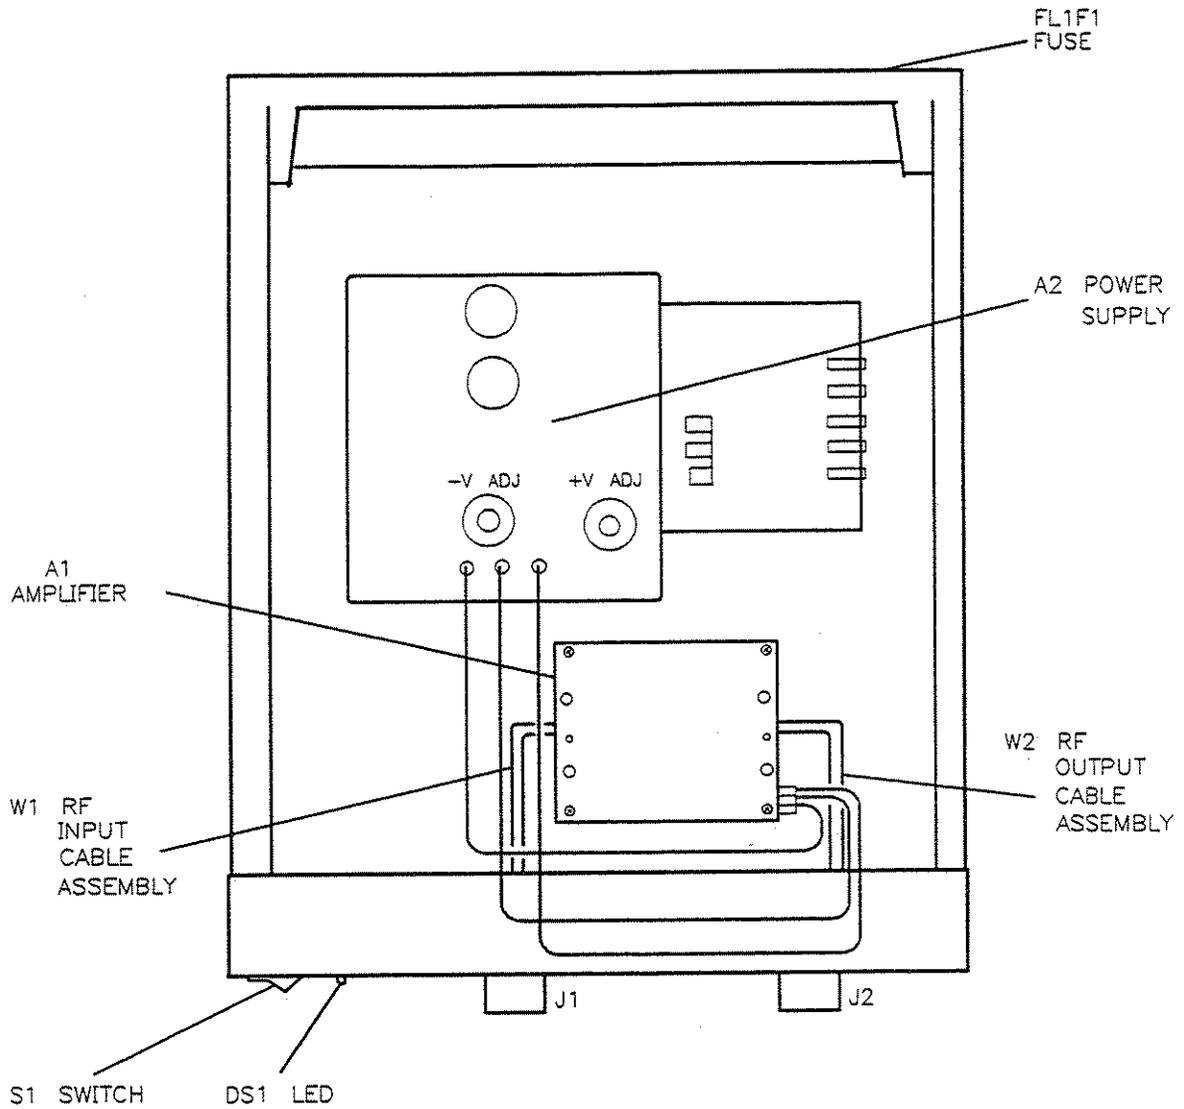

Figure 5-1. HP 8449A and HP 8449B Parts Locations
This chapter provides information on identifying and ordering all replacement parts and assemblies. The replaceable parts are listed in Table 5-1 and their locations are identified in Figure 5-1.
2. Measure the power supply output voltages on the amplifier microcircuit. See Figure 5-1.
Figure 5-1 identifies the replaceable amplifier microcircuit and the power supply. Table 6-2 specifies the tool sizes to use in removing and reinstalling the replaceable assemblies and the associated torque values.